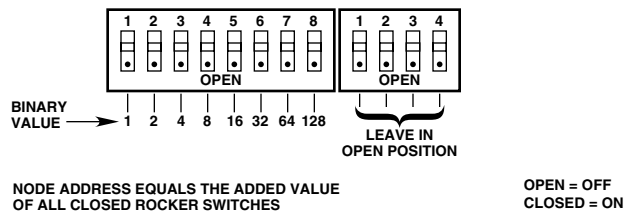

Figure 4—Field Device Address Switches
4. Set the node address for the device. Each device on the LON/SLC must be assigned a unique address. This is accomplished by setting DIP switches on the module's circuit board. See Figure 4. Each rocker switch has a specific binary value. The node address is equal to the added value of all closed rocker switches. All open switches are ignored. The valid address range is from 5 to 250. Refer to the Eagle Quantum system manual (form 95-8470) for additional information.